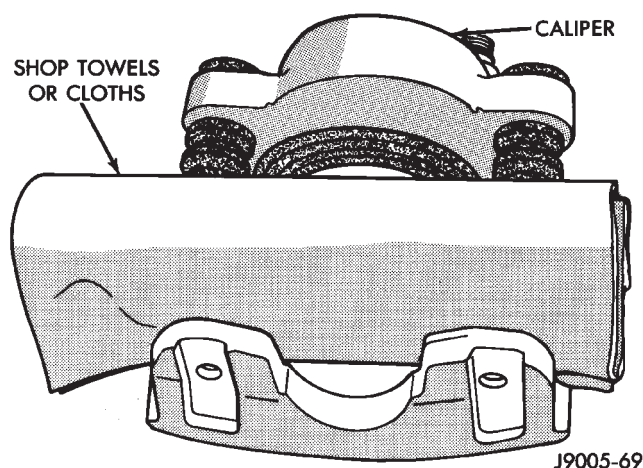

Fig. 64 Padding Caliper Interior
(1) Remove brakeshoes from caliper.
(2) Drain brake fluid out of caliper.
(3) Pad interior of caliper with minimum, 2.54 cm (1 in.) thickness of shop towels or rags (Fig. 64). Towels are needed to protect caliper piston during removal.